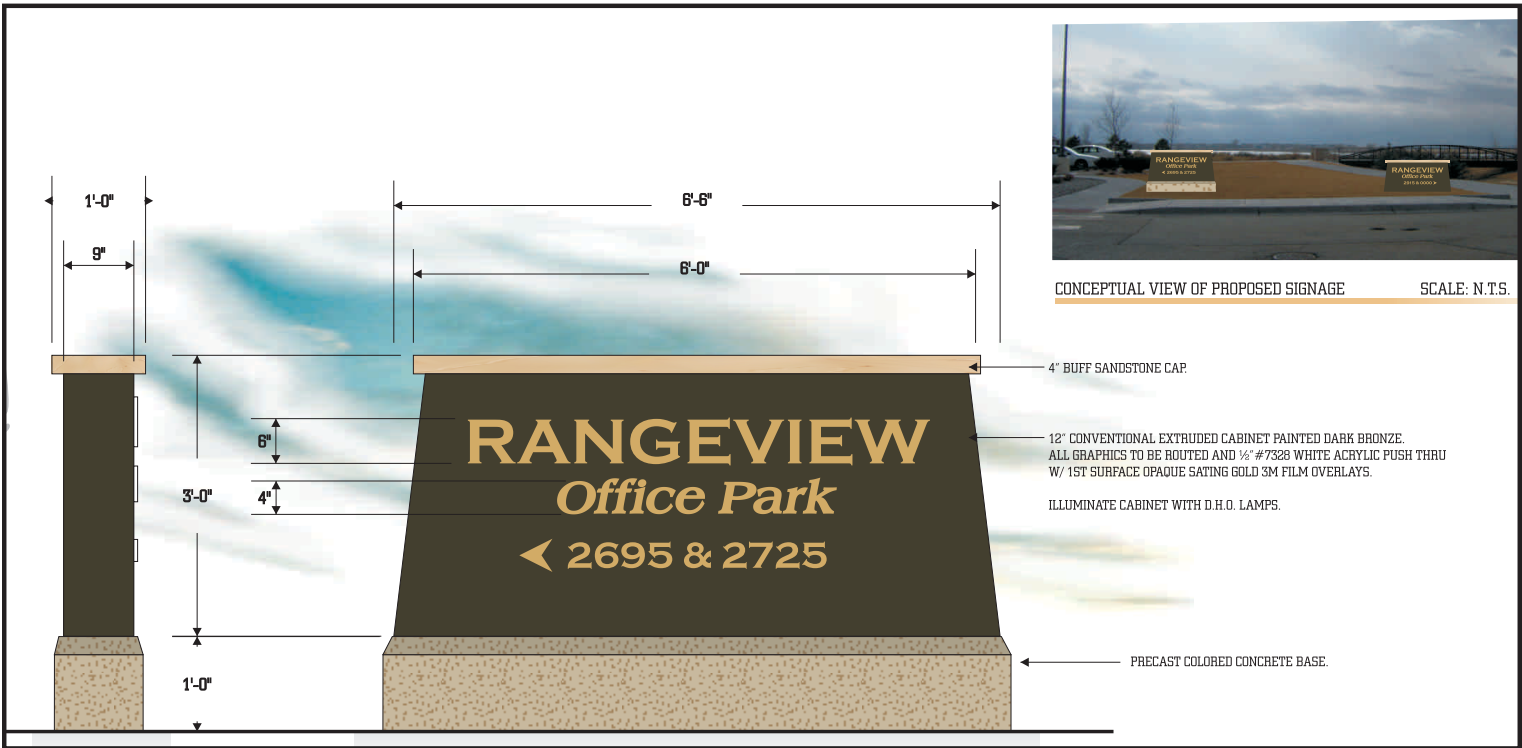

fig. 10b Vehicular Directional Sign
10.2.5 Vehicular Project Directional Signs shall harmonize with the overall signage design theme created for that project (fig. 10b on the next page).